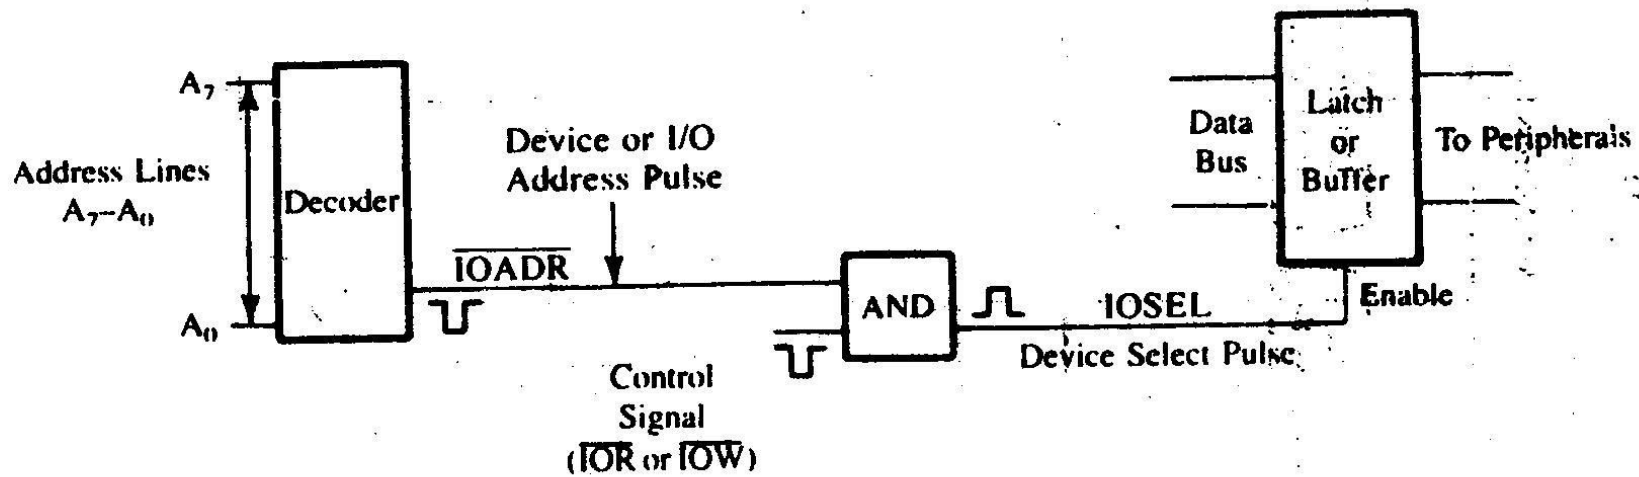
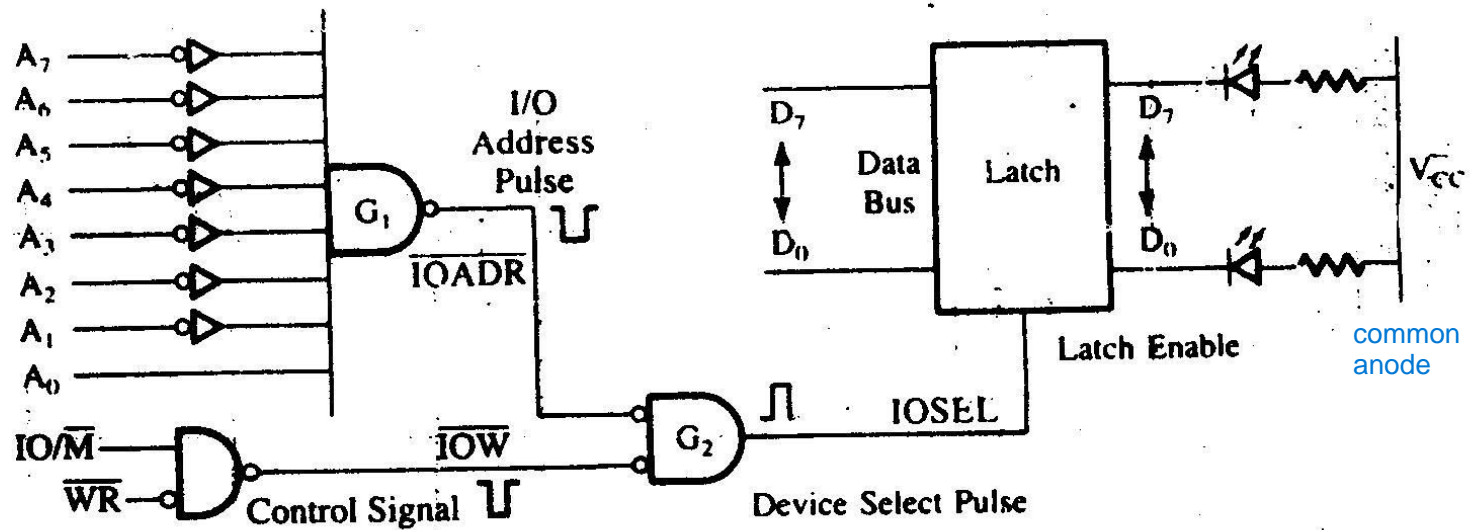
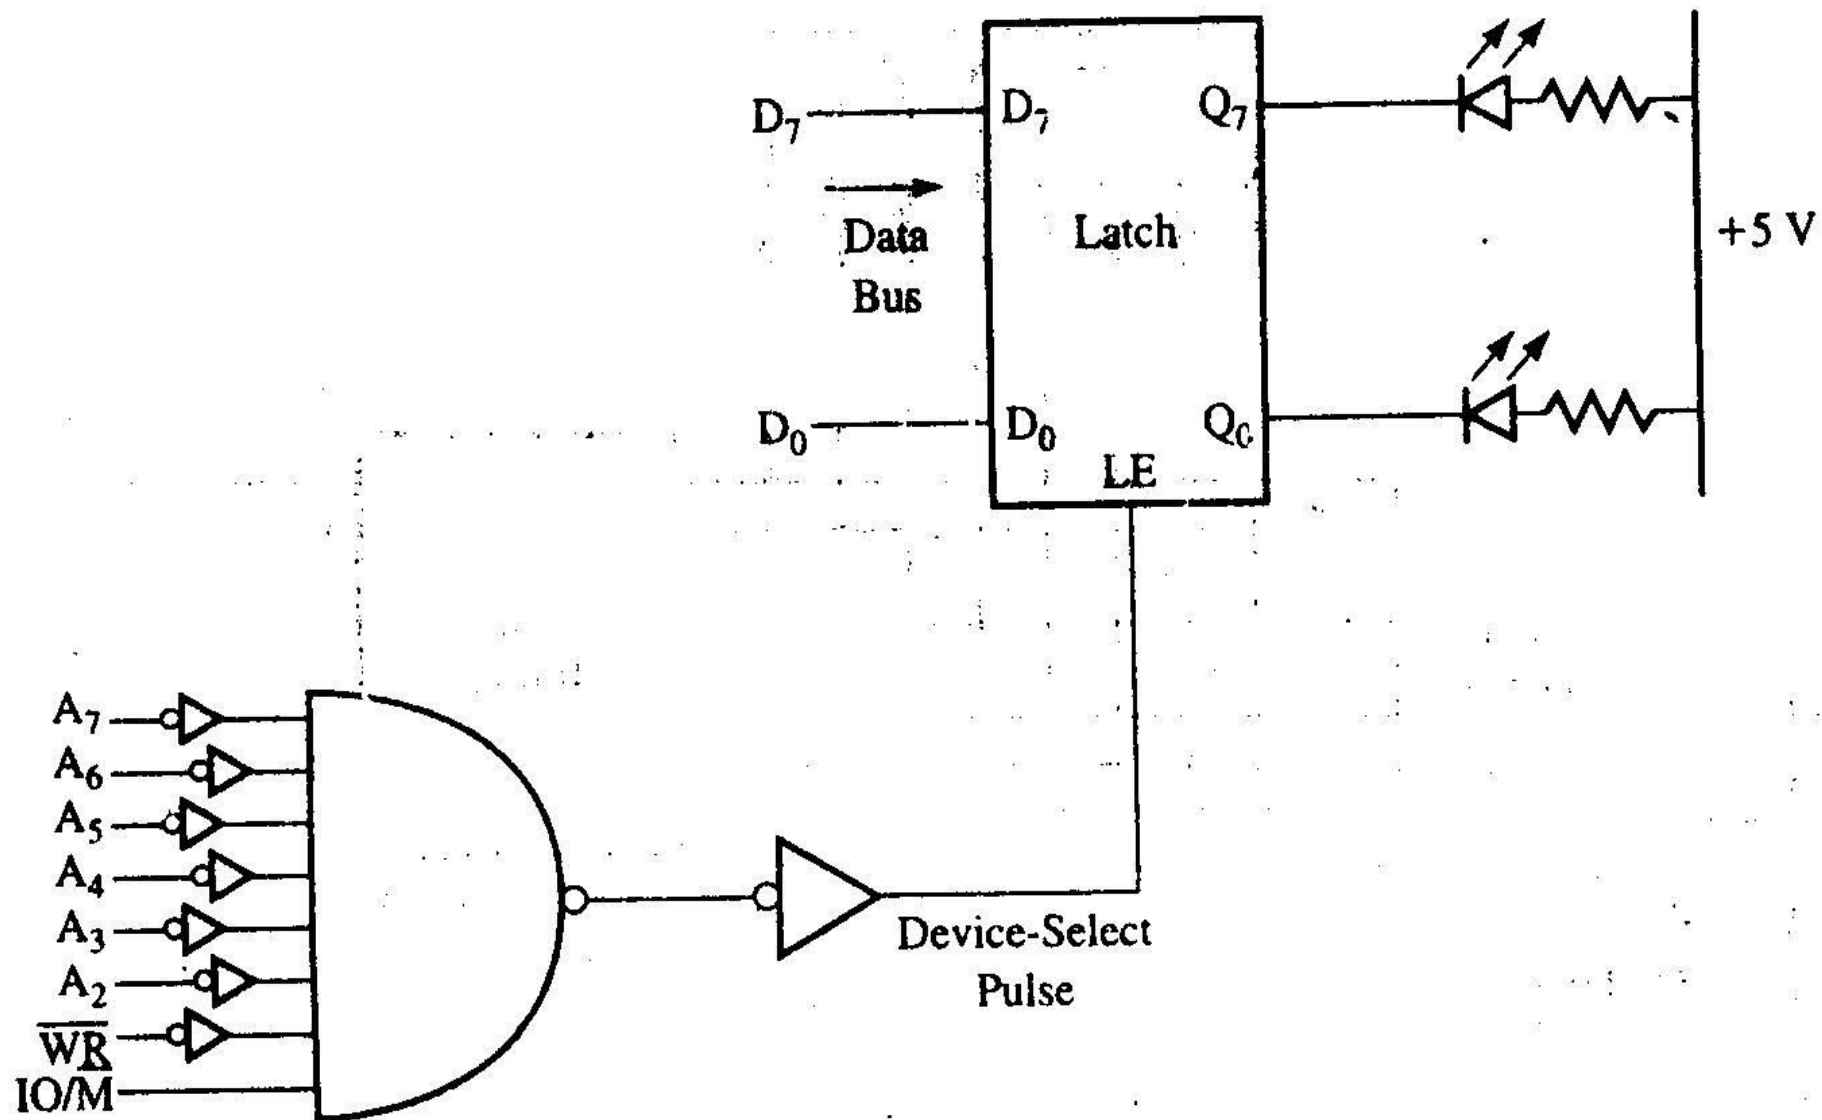
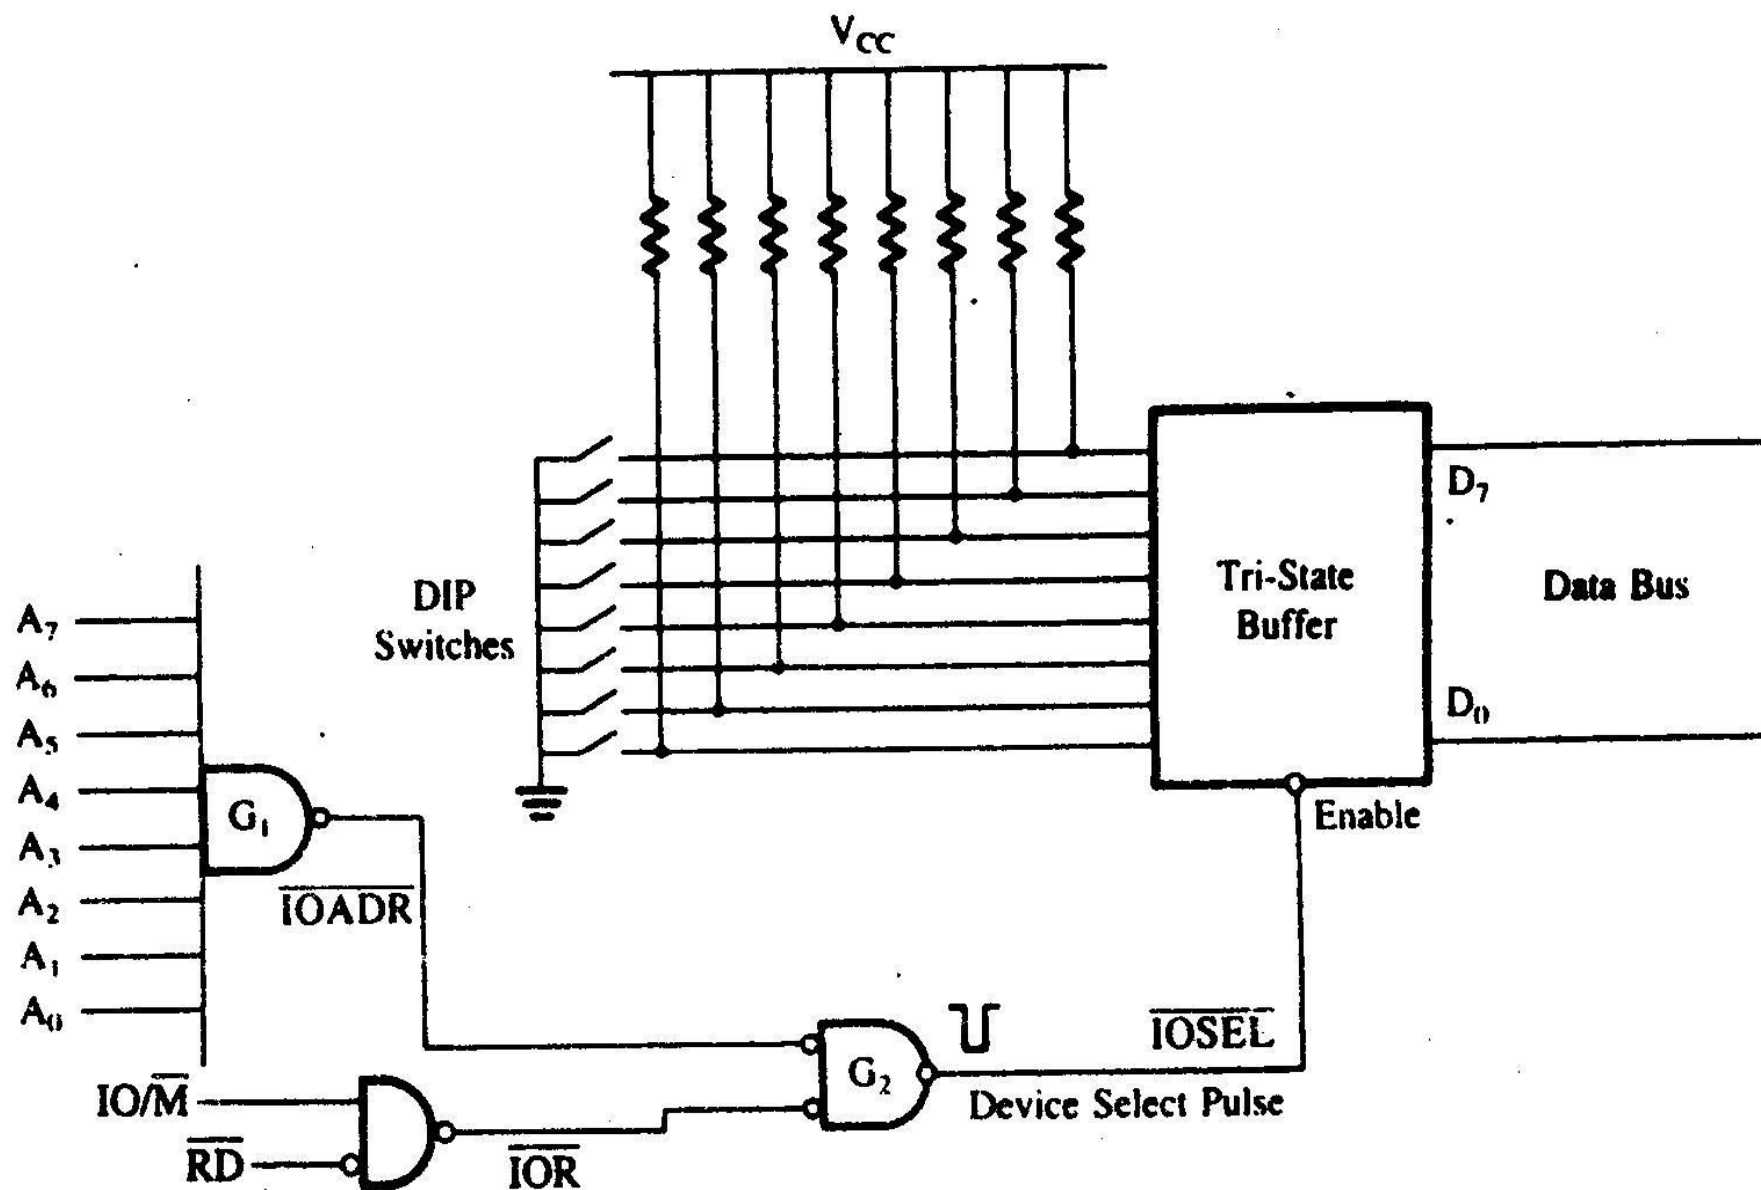

FIGURE 4.3
FIGURE 4.4
FIGURE 4.5
FIGURE 4.6
Figure 4.3 shows a block diagram and Figure 4.4 shows an example of above solution.
❑ In Figure 4.4, all eight lines are decoded to generate one unique output pulse; the device will be selected only with the address, 01H. This is called **absolute decoding** and good design practice.
❑ However, to minimize the cost, the output port can be selected by decoding some of the address lines, as shown in Figure 4.5; this is called **partial decoding**. As a result, the device has multiple addresses.
Figure 4.5 is similar to Figure 4.4 except that the address lines A and A are not connected, and they are replaced by IO/M and WR signals. Because the address lines A and A are at don't care logic level, they can be assumed 0 or 1. Thus this output port (latch) can be accessed by the addresses 00H, 01H, 02H, and 03H.
Figure 4.6, shows an example of interfacing an 8-key input port. The circuit for the input port in Figure 4.6 differs from the output port in Figure 4.4 as follows:
3. In Figure 4.6, data flow from the keys to the accumulator; on the other hand, in Figure 4.4, data flow from the accumulator to the LEDs.